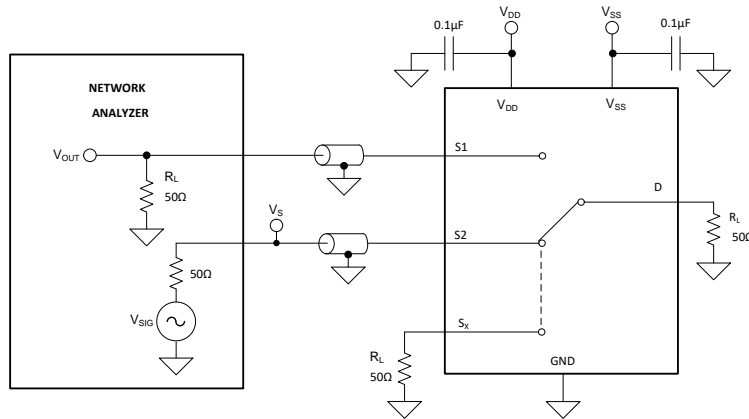

Figure 26. Crosstalk Measurement Setup
Crosstalk is defined as the ratio of the signal at the drain pin (D) of a different channel, when a signal is applied at the source pin (S_x) of an on-channel. Figure 26 shows the setup used to measure, and the equation used to compute crosstalk.